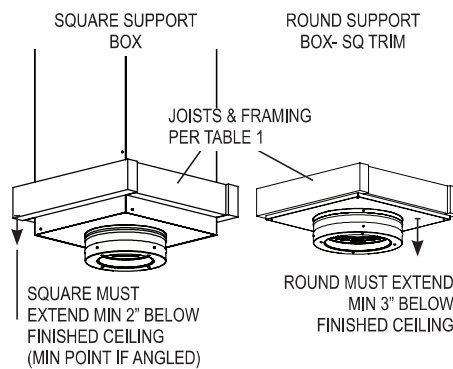

Figure 7
mark this center point on the ceiling. Refer to **Table 1** for specific framing and clearance dimensions. Mark appropriate cutting lines around the center point. Cut a square hole in the ceiling for the Support Box. Frame a level, square opening centered over the hole which you have cut. (**Fig.7 and 8**).
3. **Install Support Box:** For installation into a flat ceiling, there is the option of the Round Support Box (Round or Square Trim Collar), Flat Ceiling Support Box, Square Ceiling Support Box, or Reduced Clearance Support Box. The Flat Ceiling Support Box is primarily used for Oil Appliances and comes unpainted. For the Round support box, the trim mounts flush to the ceiling with the bottom protruding a min of 3" below the ceiling (**Fig.7**). For the Square support box, the square face must protrude a min of 2" below the ceiling (**Fig.7**). Level the Support Box and secure it to the framing using at least three 8-penny nails per side (min. of 12 total). Alternatively, you may use 1-1/2" #8 wood screws (min. of 12 total), instead of nails. After the Support Box is mounted, secure the Trim Collar (round or square) to the framing members using the (4) 1" long, round-head wood screws provided
(A) Support Box: For a Square Ceiling Support Box or Reduced Clearance Support Box, make sure that the square box portion of the Support Box can extend at least 2" below the low side of the finished ceiling (*Fig.7, 19*). The Support Box must remain level, and the top edge of the box must cover the edge of the roof's decking material. Mobile home chimney installations are roof supported.